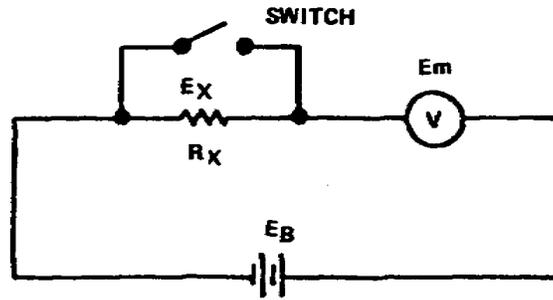

Figure 1-12. Determining value of unknown resistance of voltmeter
b. If the resistance is high, the voltmeter method can be used. With the voltmeter method, a voltmeter with known resistance is connected in series with the unknown resistance (fig 1-12).
(2) In the circuit shown in Figure 1-12 you can find the current in the shunt (I_s) and the total current (I_t) in the circuit. For example, if the shunt resistance (R_s) is equal to 1/5th the value of the resistance of the coil (R_c), and current through the coil (I_c) is 0.5 milliampere, there is 5 times as much current through the shunt (I_s) as through the coil (I_c), because the current divides in inverse proportion to the resistance; therefore, the current through the shunt is $2.5(5 \times 0.5)$ milliamperes. The total current in the circuit is 3 ($0.5 + 2.5$) milliamperes. The total current in the circuit is 3 ($0.5 + 2.5$) milliamperes.